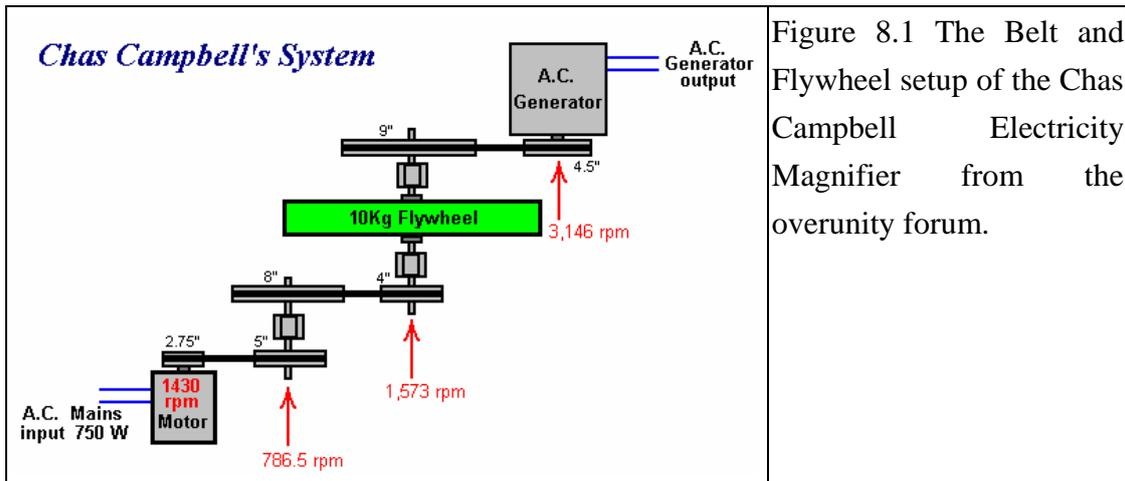

Figure 8.1 The Belt and Flywheel setup of the Chas Campbell Electricity Magnifier from the overunity forum.
Special thanks to Hans von Lieven and Patrick Kelly from Panacea on the Chas Campbell system diagram. It was extremely informative. It is reproduced as Figure 8.1
Figure 8.1 is the Chas Campbell Electricity Magnifier. From the Figure, it has no special magic. There is an AC Input Motor that is commercially available. There are some Wheels with belts driving other Wheels and a Flywheel. There is an AC Output Motor. The Claim as reported on the Australian TV was that a Magnifying Factor of 10 was achieved. The visit by Ash et al on September 1, 2007 revealed that there was more to the story. More testing is need.
- (1) Chas Campbell has a Starting Motor driven by Mains Input at 1,430 RPM. When the power is switched on, the various wheels would rotate as they achieved the steady speed shown in Figure 8.1. At this point, some energy would have been stored in the 10kg Flywheel rotating at 1,573 rpm.
- (2) The Energy Input Mechanism is also the Motor driven by Mains Input. It uses the tension in the belt to sense the varying load. When there is no external load, the tension should be at the minimum. When there is increasing external load, there should be increasing tension. The Motor should then deliver more power to maintain the rotational speed.
- (3) The Actual Mechanism to Lead Out Gravitational Energy is the various pulleys, wheels and the Flywheel. These objects will undergo Pulsed Rotation. Gravitational Energy would be Lead Out. At no load condition, the supplied input energy from (2) is just sufficient to overcome friction etc. These wheels rotate at almost constant speed. No Gravitational Energy is Lead Out during constant rotation.
- (4) The Energy Output Mechanisms include:
2. The Input Motor. Increased tension will be sensed at the Input Motor. More power will be drained to try to maintain the rotational speed of the wheels. However, the coupling is somewhat loose. There will be delay and different matches of speed as compared with the numbers shown at Figure 8.1.